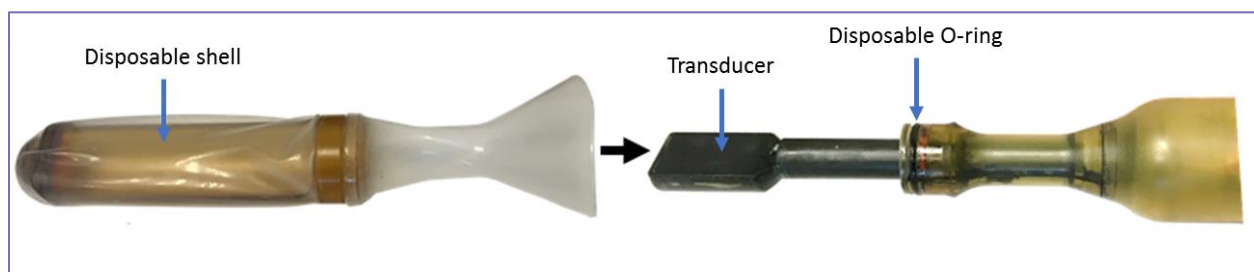

Figure 3-4: Probe Disposable Shell and Transducer
1. Place a new **disposable** (white) **O-ring** over the **groove in the probe** (see Figure 3-4).
2. Gently Place a new **disposable shell** assembly (see Figure 3-4) over the **probe**.